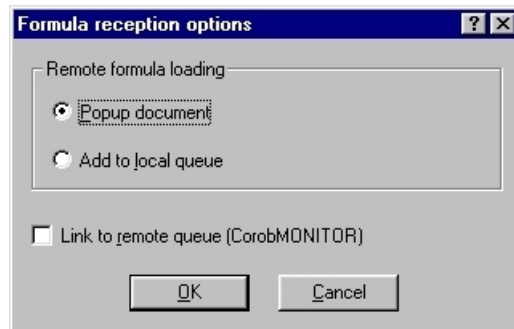

Figure 66
2. click the **Options** button to configure the via serial line reception mode (Figure 66).
3. click the **Options** button to configure the via network reception mode (Figure 66).